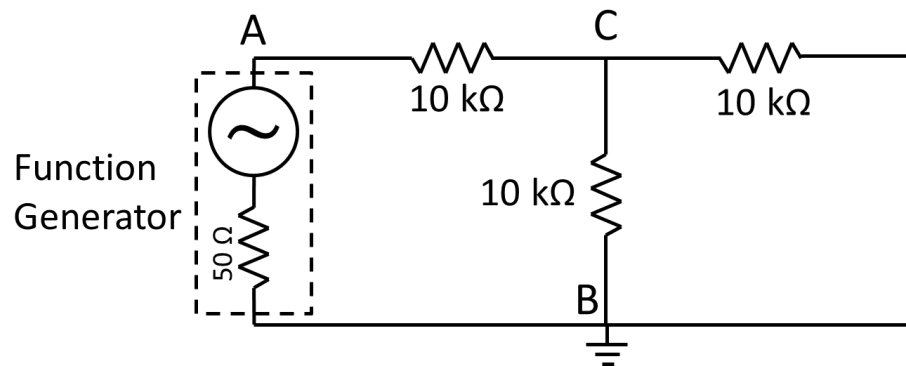

Figure 5: Function Generator with 3 Resistors Network
2.1 Connect one of the function generators to the breadboard using a BNC cable with three $10\text{ k}\Omega$ resistors, as shown in Figure 5. Note that the generator has a $50\text{ }\Omega$ resistance. Set the function generator at approximately 400 Hz with a sine wave signal with an amplitude of 1.75 V . Verify the values using the oscilloscope. If you chose to use the oscilloscope probe, be sure that both the probe and the channel menu option are set to $1X$, and that you connect the alligator clip to the reference node.